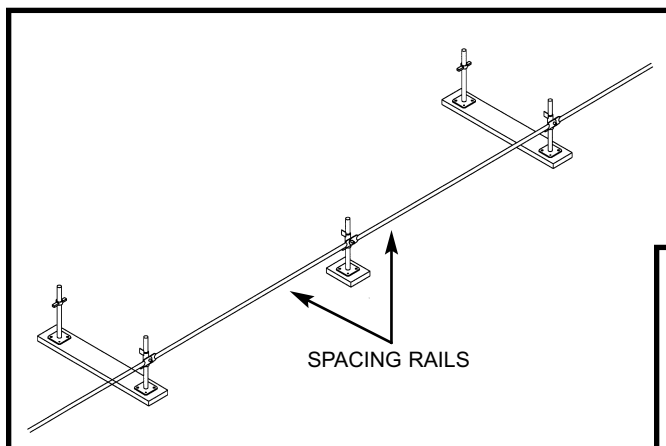

Figure 15: Setting Base for Girt Installation
2.6.2.2 Getting started: Begin Girt installation when the base scaffold level is installed. Do not attempt to install Girts between independent scaffolds as an after thought. At the base level, install SCREW JACKS, Vertical Diagonal Starter or Base Support members and rail members as required by section 2.3 along the entire run (which includes the Girt area) and level each bay as it is erected (see Fig. 15). This will assure proper girt spacing. If you are going to span across a door or drive, block the door or drive to restrict through traffic during the Girt erection process. The Girt length will be a multiple of the frame space and its span will be determined by the spacing rails used.